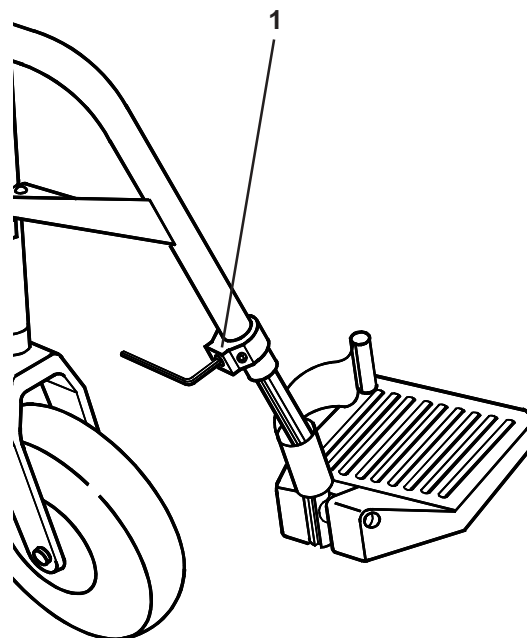

Fig. 31
To adjust the height of swing-away footplates (Fig. 31), loosen the screw (1), located as shown, using a 4mm Allen key and set the footplate height to the required position. Tighten the screw to 5-8Nm torque using a 4mm Allen key.